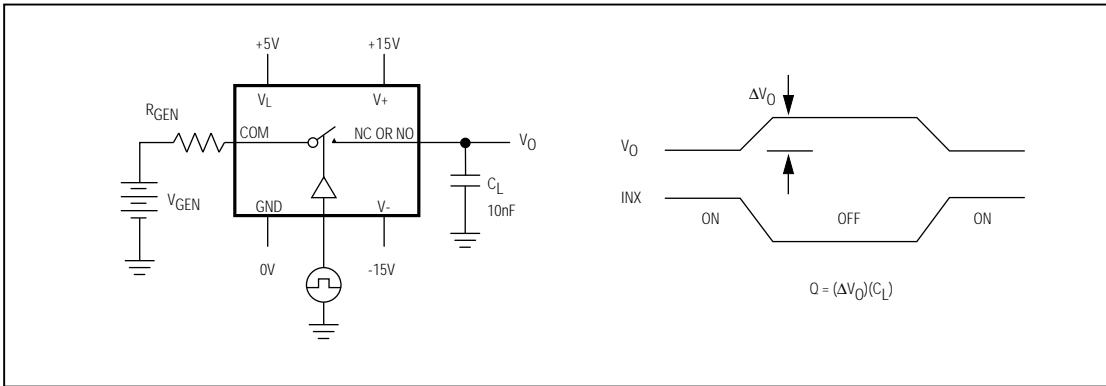

Figure 4. Charge-Injection Test Circuit
**Note 5:** See Figure 4. Off isolation =  $20\log_{10} V_{COM}/V_{NC \text{ or } NO}$ ,  $V_{COM}$  = output,  $V_{NC}$  or  $V_{NO}$  = input to off switch.